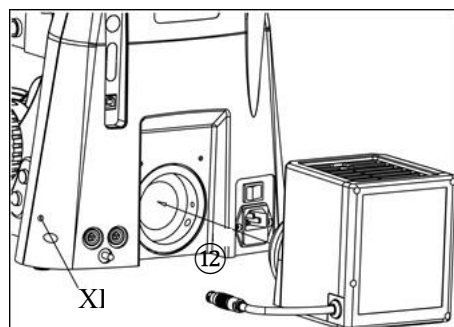

Figure 15
**4-2-12 Install the light box (figure.15)**
First insert the light box down the back of the frame base in the illustrated position in the sequence number ⑫ path in Figure 15.